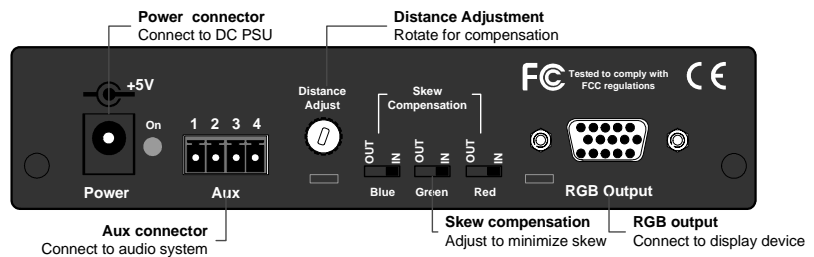

Figure 4-3. *XtendView* RXSL Rear Panel Connections
2. Connect a standard 15 pin VGA cable to the RXSL receiver RGB output connector (if you are using composite or S-Video signals use a VGA to BNC adapter cable) and connect the other end to your destination device (Figure 4-3).
3. Connect a 4 pin Phoenix connector to the Aux connector and connect to your audio amplifier (Figure 4-3).
4. Connect the 5 VDC output of the power adapter to the *XtendView* RXSL power connector and connect the power adapter AC input to a reliable AC power source (Figure 4-3).
2. Rotate the “Distance Adjust” control (Figure 4-3) fully counterclockwise.